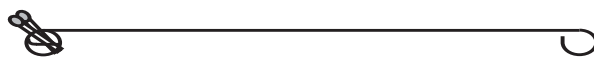
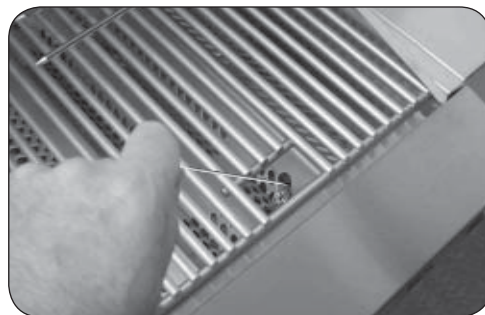

Fig. 21-2 - Match holder
Fig. 21-3 - Manual lighting
2. Insert either a burning long-barrel butane lighter, a burning long-stem match, or a burning match held by a wire extension holder (Fig. 21-2) through the cooking grids to the burner (Fig. 21-3). For backburners, hold the flame against the perforated material of the backburner. For sideburners, hold the flame against the burner.
4. If the burner does not light within five (5) seconds of turning the control knob, **immediately depress the knob and turn the valve to OFF**. **WAIT FIVE (5) MINUTES** before repeating steps 2 through 4 of the MANUAL LIGHTING instructions.